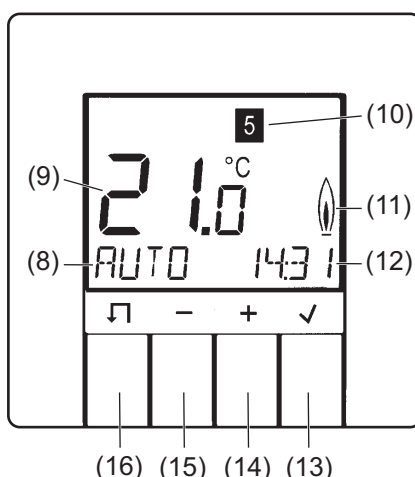

Fig. 2: Default display
Four buttons below the display are used to operate the temperature controller (Fig. 2, items (13) to (16)). In the menu, you can activate operating modes, adapt programs and make settings. If a button is not pressed for more than three minutes, the unit automatically switches back to the previous function and the default display (Fig. 2). Program 1 and AUTO mode are the preselected defaults; see “Default programs” and “Modes and setting menus (overview 1)”.